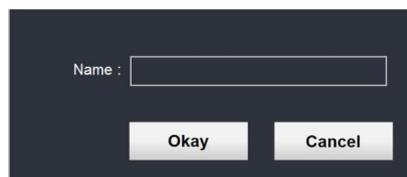

Fig. 3-23
6. Input a name for the transferred file (Fig. 3-23).